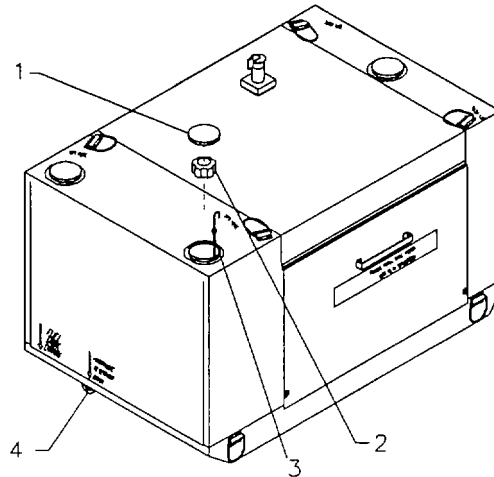

Figure 4-2. Hydraulic Fluid Level Check.
a. Checking fluid level. Refer to figure 4-2.
- 1) Remove dipstick (3), wipe clean then reinsert.
- 2) Remove dipstick (3) again. Fluid level should be between marks on dipstick. The distance between the marks represents approximately 4 gallons/15.1 liters. Filling to the top mark represents the full capacity of 25 gallons/94.6 liters.
- 3) Replace dipstick (3).
b. Fluid draining. Refer to figure 4-2.
- 2) Turn the drain valve handle (4) counter clockwise allowing the hydraulic fluid to drain in to the waste fluid container. Turn the drain valve handle fully clockwise to close the drain valve after all the fluid has drained.
c. Filling. Refer to figure 4-2.
- 1) Remove filler cap (2).
- 2) Add fluid through the filler to the full line on the dipstick (3). The hydraulic fluid tank capacity is 25 gallons/94.6 liters.